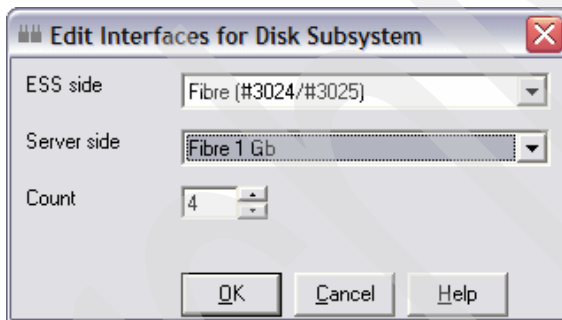

Figure 4-74 Insert Interfaces for Disk Subsystem
- d. The Edit Interfaces for Disk Subsystem window (Figure 4-74) opens. Enter the correct values for the current ESS 800. In our example, the customer uses four host ports from ESS, so we do not change the default value of 4. However, we change the type of adapters for Server side to **Fibre 1 Gb** to reflect the existing iSeries adapter 2766. Click **OK**.